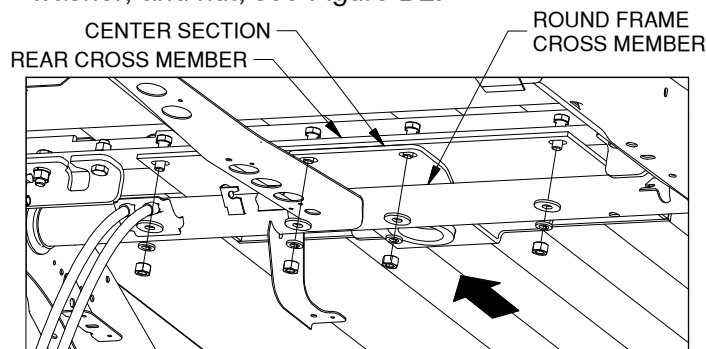

Figure D2: Looking up under truck bed.
2. **Attach the center section to rear cross member.** With the center section in the center of the truck, slide it toward the rear, placing the flat part of the center section that has four slotted holes between the bed cross member and the round frame cross member. Slide it back until the raised portion of the center section lines up with the 4" hole in the truck bed. Insert the raised portion into the truck bed hole. If using an overhead lifting device, secure it to the center section at this time and apply enough force to hold the center section against the truck bed. Align the slots in the rear flange of the center section with the holes in the rear cross member. Install a 1/2" x 1-1/2" cap screw in each location and secure with a flat washer, lock washer, and nut; see Figure D2.